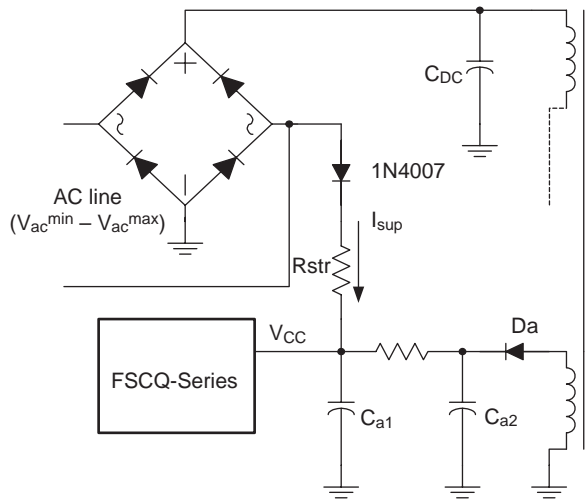
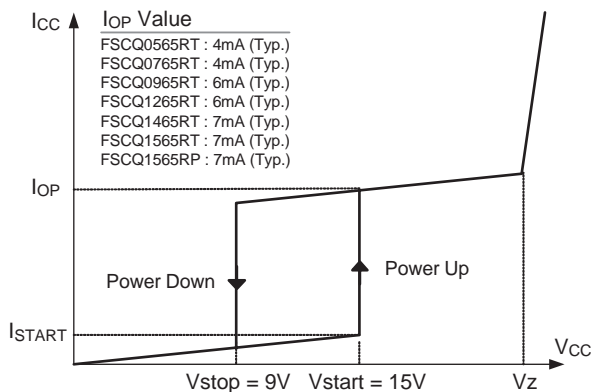

Figure 4. Startup circuit
Figure 5. Relationship Between Operating Supply Current and V_{CC} Voltage
1. Startup: Figure 4 shows the typical startup circuit and the transformer auxiliary winding for the FSCQ-Series. Before the FSCQ-Series begins switching, it consumes only startup current (typically 25μA). The current supplied from the AC line charges the external capacitor (C_{a1}) that is connected to the V_{CC} pin. When V_{CC} reaches the start voltage of 15V (V_{START}), the FSCQ-Series begins switching, and its current consumption increases to I_{OP} . Then, the FSCQ-Series continues its normal switching operation and the power required for the FSCQ-Series is supplied from the transformer auxiliary winding, unless V_{CC} drops below the stop voltage of 9V (V_{STOP}). To guarantee the stable operation of the control IC, V_{CC} has under voltage lockout (UVLO) with 6V hysteresis. Figure 5 shows the relationship between the operating supply current of the FSCQ-Series and the supply voltage (V_{CC}).